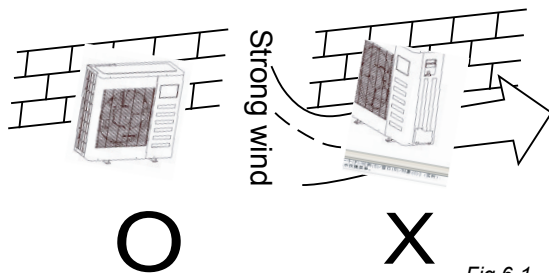

Fig.6-1
- In the case that the installation place is exposed to strong wind such as a seaside, make sure the fan operating properly by putting the unit lengthwise along the wall or using a dust or shield.(Refer to Fig.6-1)